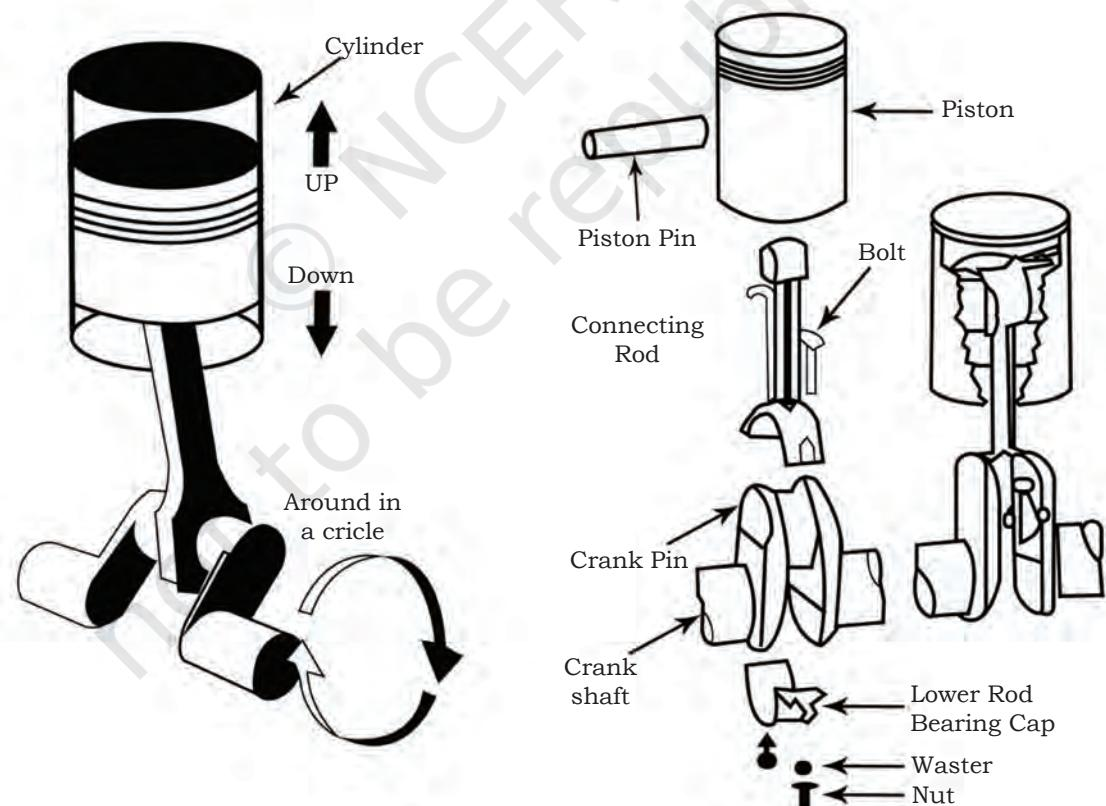

Fig. 3.4: Crankshaft of multicylinder engine
5. Crank and Crankshaft: The crankshaft (Fig. 3.4) is called the backbone of an engine because it converts the reciprocating motion of piston into the rotary motion of the crankshaft. The crankshaft is a single casted unit and is made of drop-forged steel main journals which are placed and supported in the crank case. The main journal and connecting journals are machined to a smooth finish to reduce